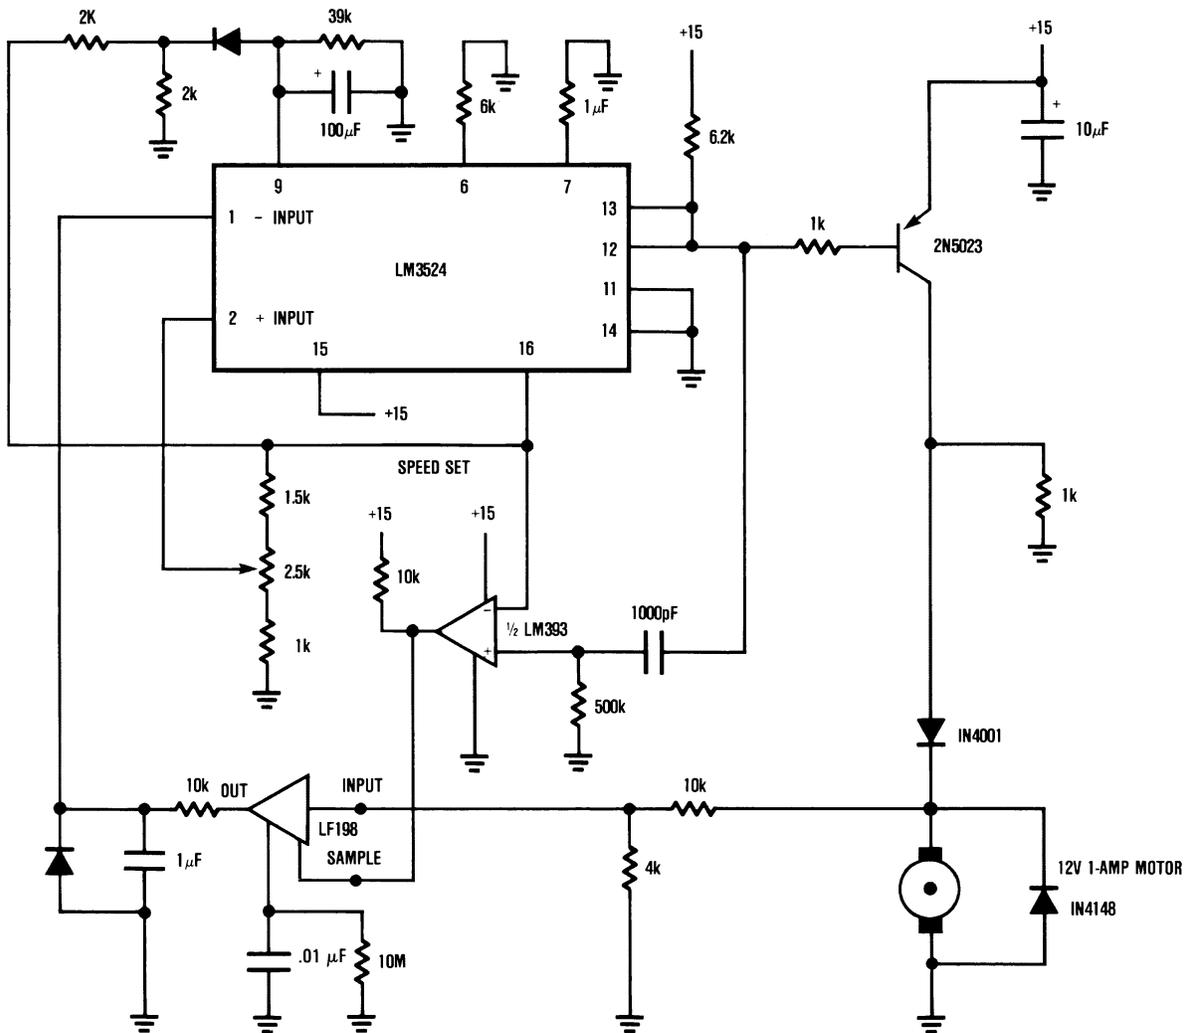

Figure 7. "SENSORLESS" Motor Speed Control
Figure 7 shows the LM3524 in an arrangement that controls the speed of a motor without requiring the usual tachometer or other speed pick-off. This circuit uses the back EMF of the motor to bias a feedback loop, which controls motor speed. When power is applied, the positive input of the LM3524 is at a higher potential than the negative input. Under these conditions, the output of the LM3524 is biased full on (90% duty cycle). The output transistors, paralleled in the common emitter configuration, drive the 2N5023 and the motor turns. (LM3524 output is waveform A, Figure 8; waveform B is the 2N5023 collector.) The LM3524 output pulse is also used to drive a 1000 pF-500 kΩ differentiator network whose output is compared to the LM3524's internal 5 V reference. The result is a delayed pulse (Figure 8, waveform D), which is used to trigger an LF398 sample-and-hold IC. As the waveforms show, the sample-and-hold is gated high (ON) just as the 2N5023 collector stops supplying current to the motor. At this instant, the motor coils produce a flyback pulse, which is damped by the shunt diode. (Motor waveform is Figure 8, trace C). After the flyback pulse decays, the back EMF of the motor remains. This voltage is “remembered” by the sample-and-hold IC when the sample trigger pulse ceases and is used to complete the speed control loop back at the LM3524 input. The 10k-4k divider at the motor output insures the LF398's output will always be within the common range of the LM3524's input. The 10k-1 μF combination provides filtering during the time the LF398 is sampling. The diode associated with this time constant prevents any possible LF398 negative output from damaging the LM3524. The 10 MΩ resistor paralleling the 0.01 μF sampling capacitor prevents the servo from “hanging up” if this capacitor somehow manages to charge above the motor's back EMF value. The 39k-100 μF pair sets the loop frequency response. The maximum pulse-width-modulator duty cycle is clamped by the 2k-2k divider and diode at 80%, thus avoiding overshoot and aiding transient response at turn-on and during large positive step changes. The 60k-0.1 μF values at pins 6 and 7 set the pulse modulation frequency at 300 Hz.